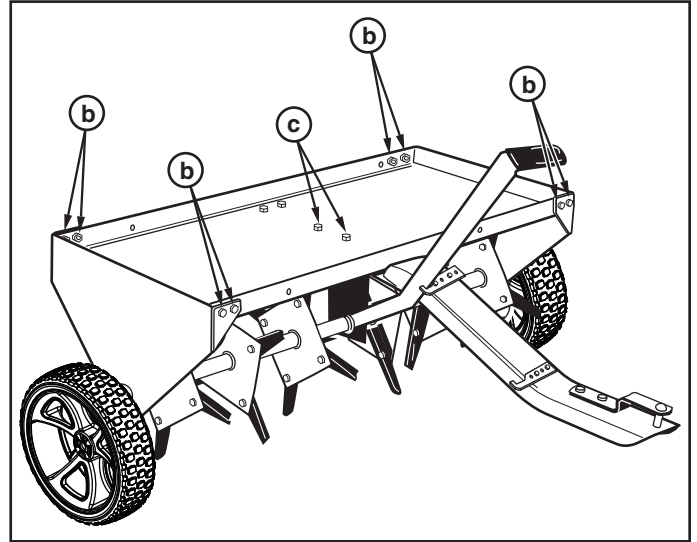

FIGURE 12
17. Perform the following steps in sequence to tighten the bolts and nuts that remain loose. Refer to figure 12.